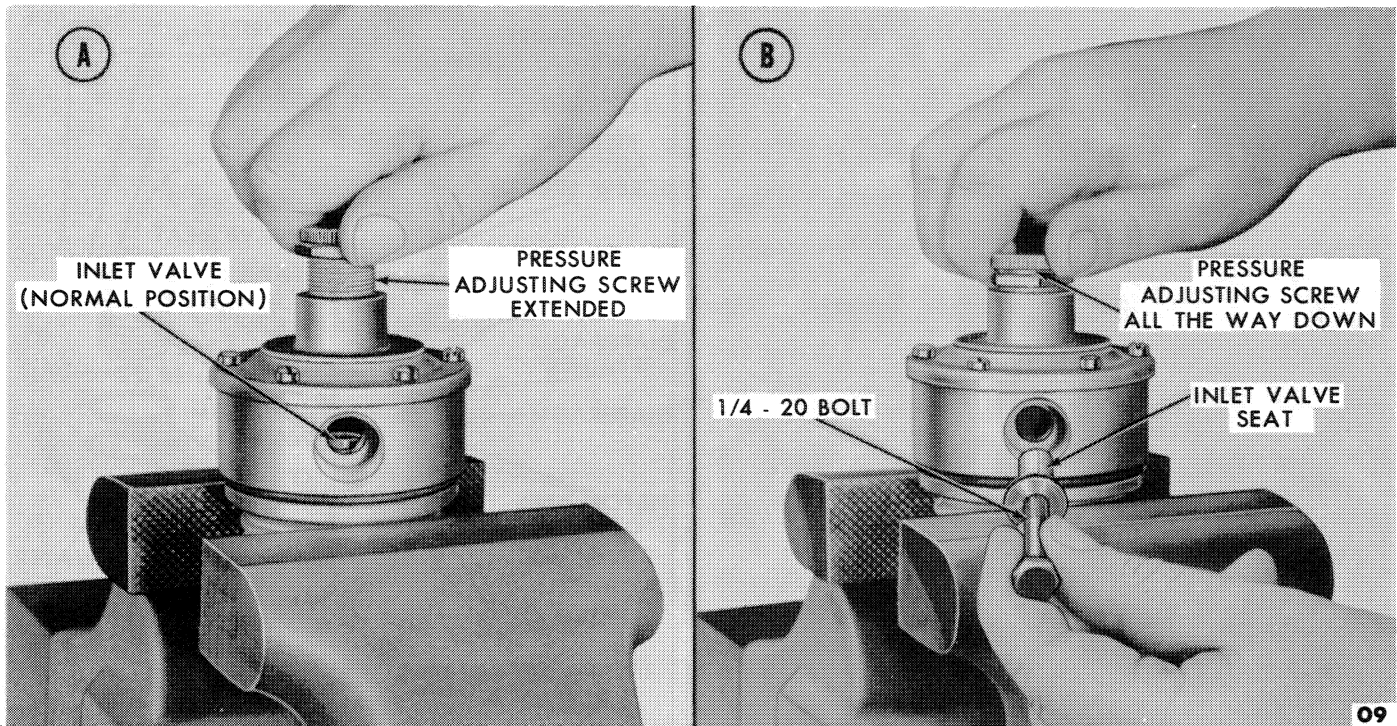

Figure 18—Removing Vaporizer Inlet Valve
normal position interferes with the removal of the inlet valve, (A), Figure 18.
3. Screw a $\frac{1}{4}$ -20 bolt into the inlet valve, (B), Figure 18, and remove the valve.